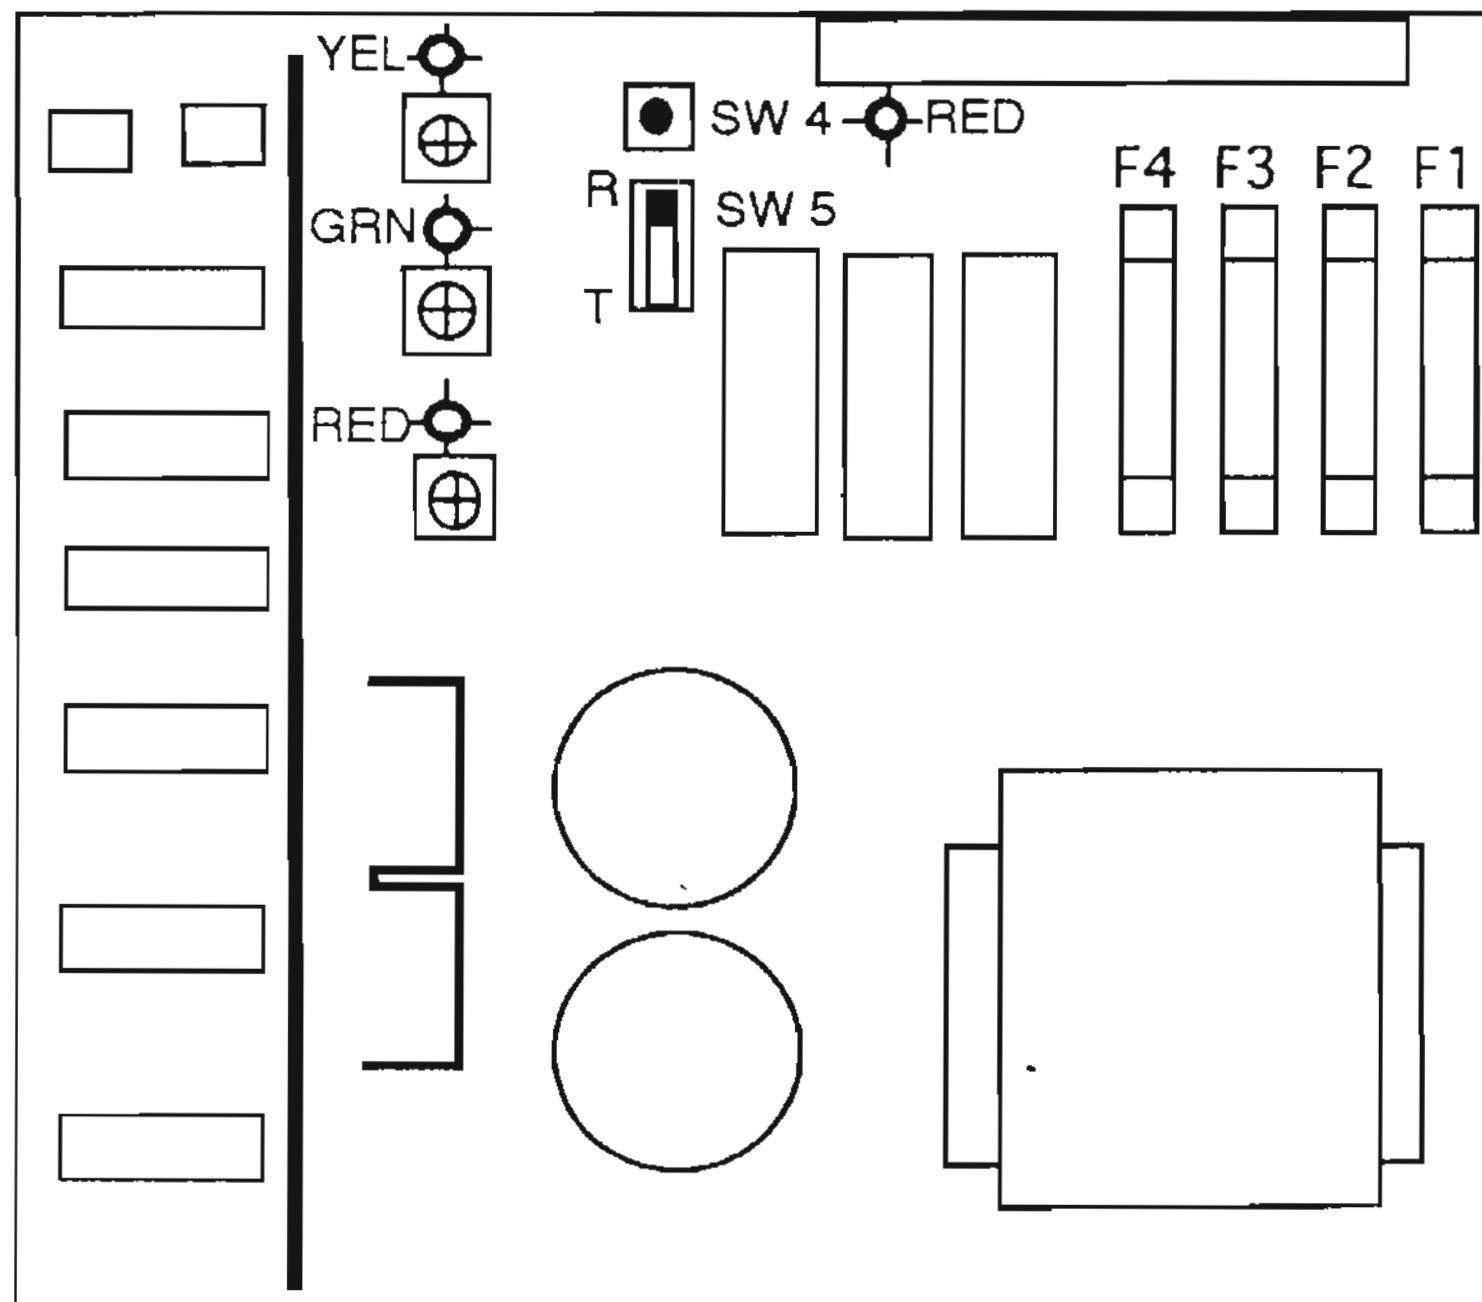

FIG 4-1
a. Refer to FIG 4-1. This board, which is located in the left side of the rear control box, provides 24 VDC power and timed output signals to operate the drive and load valves. It also monitors the safety interlock function of the proximity sensor.